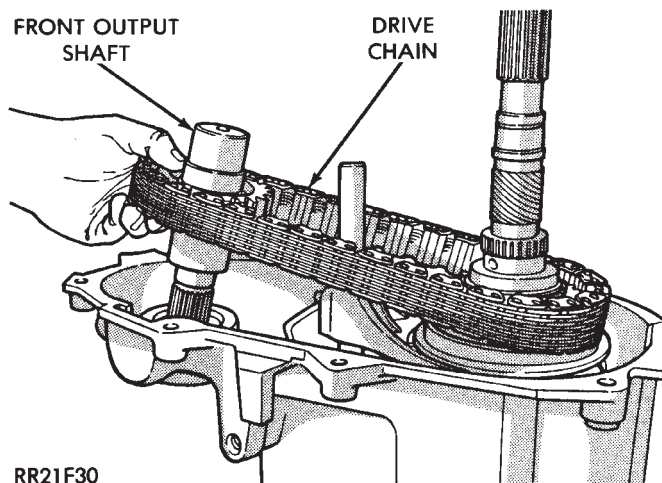

Fig. 62 Installing Drive Chain And Front Output Shaft
(7) Install chain on drive sprocket and start front shaft into front bearing at same time (Fig 62).